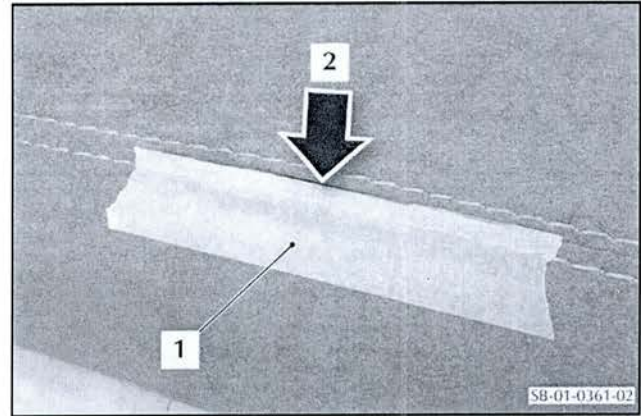

Figure 2
1. Apply masking tape (1) along one edge of the seam in the alcantara trim (refer to Figure 2). Make sure that you fully cover the edge (2) of the alcantara.